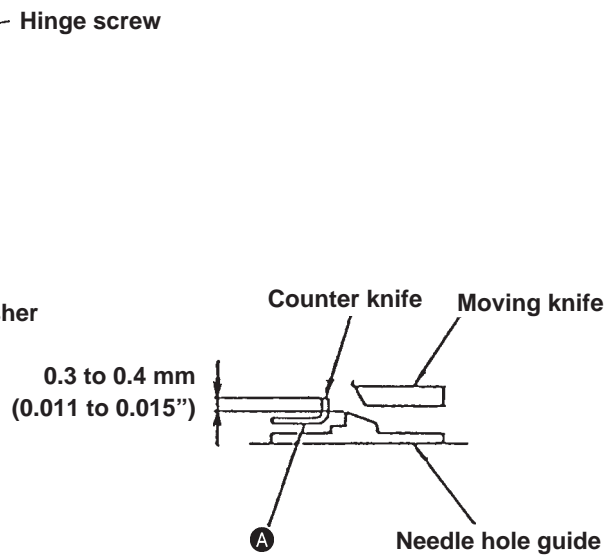

Fig. 8-2
- 1) If the difference in height between the needle hole guide and the blade of the counter knife has not been adjusted to a value within the range of 0.3 to 0.4 mm, adjust it by prizing off portion **A** (Fig. 8-2) with a screwdriver or the like. (At this time, check the parallelism between the blade and the throat plate installing plane.)